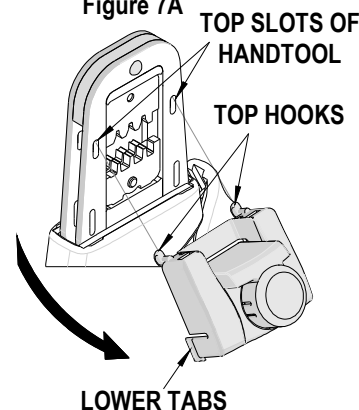

Figure 7B
- Press the red insert down as far as it will go as shown in Figure 7B.
- Holding onto the lower part of the locator with your thumb and index finger, insert the locators top hooks (2) into the hand tool top slots.